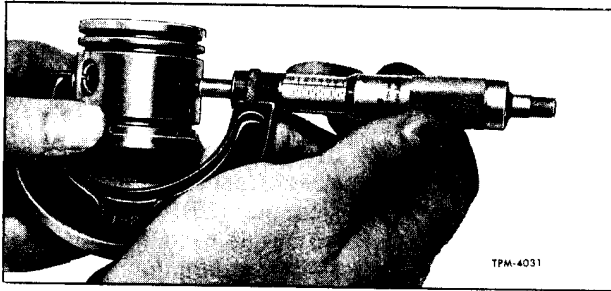

Figure 10—Measuring Piston Diameter
8. Pistons (Fig. 10). Examine pistons for scoring, cracks, or damage of any kind. Measure outside diameter of piston with a micrometer and compare this measurement with the inside diameter of cylinder bore. Clearance should not be less than 0.002" or more than 0.004". Piston over 0.004" smaller than cylinder bore must be replaced with an oversize piston.